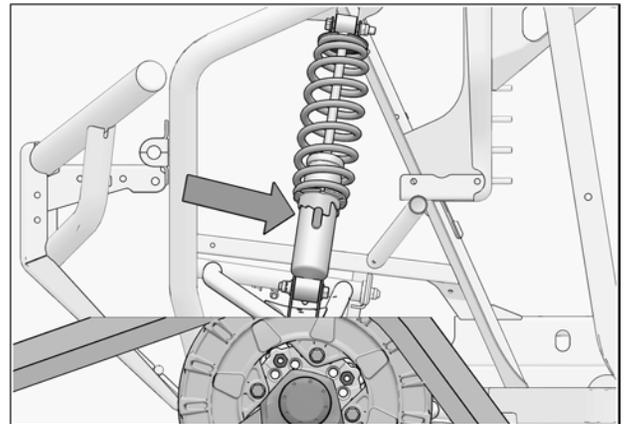

Fig. 30
1. Verify the suspension settings. If the shock absorbers are adjustable, adjust them to the stiffest setting to allow for maximum clearance between the System and the vehicle's fenders. See Fig. 30